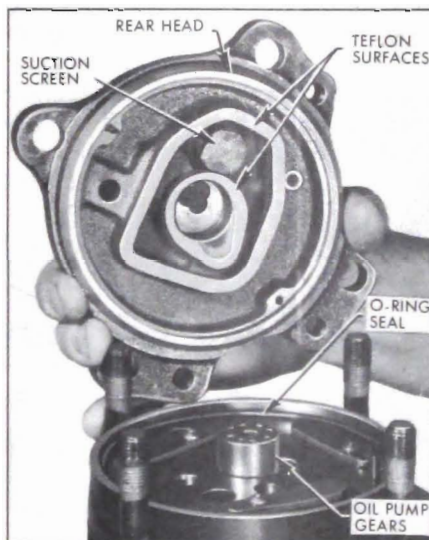

Figure 11-113—Rear Head Teflon Surface
12. Examine teflon surface on the rear head casting webs. If any damage is observed, the head should be replaced. See Figure 11-113.